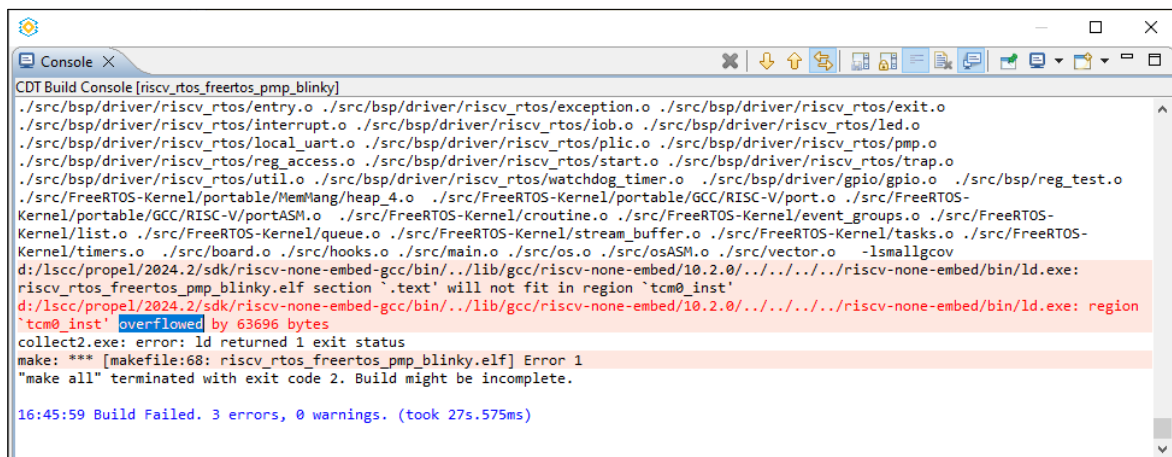

Figure A.6. Build Project Console 1
If you add too many code to your C project, it might cause the build error shown in the Figure A.6 error log.
The error shown in Figure A.6 means the additional space size needed for this project is 63696 bytes, which is 0xF8D0 in hexadecimal. Therefore, the total space size needed is 0x1F8D0 bytes.
3. Set the Port S0 and Port S1 address depth to an adequate value. In the error shown in Figure A.6, we need 0x1F8D0 bytes, which needs to be 1k aligned. Consequently, the minimum size needed is 0x1FC00 bytes, equivalent to 0x7F00 DWORDs or 32512 in decimal. Refer to Figure A.11 and Figure A.12 for the settings described in this step. click **Generate**.